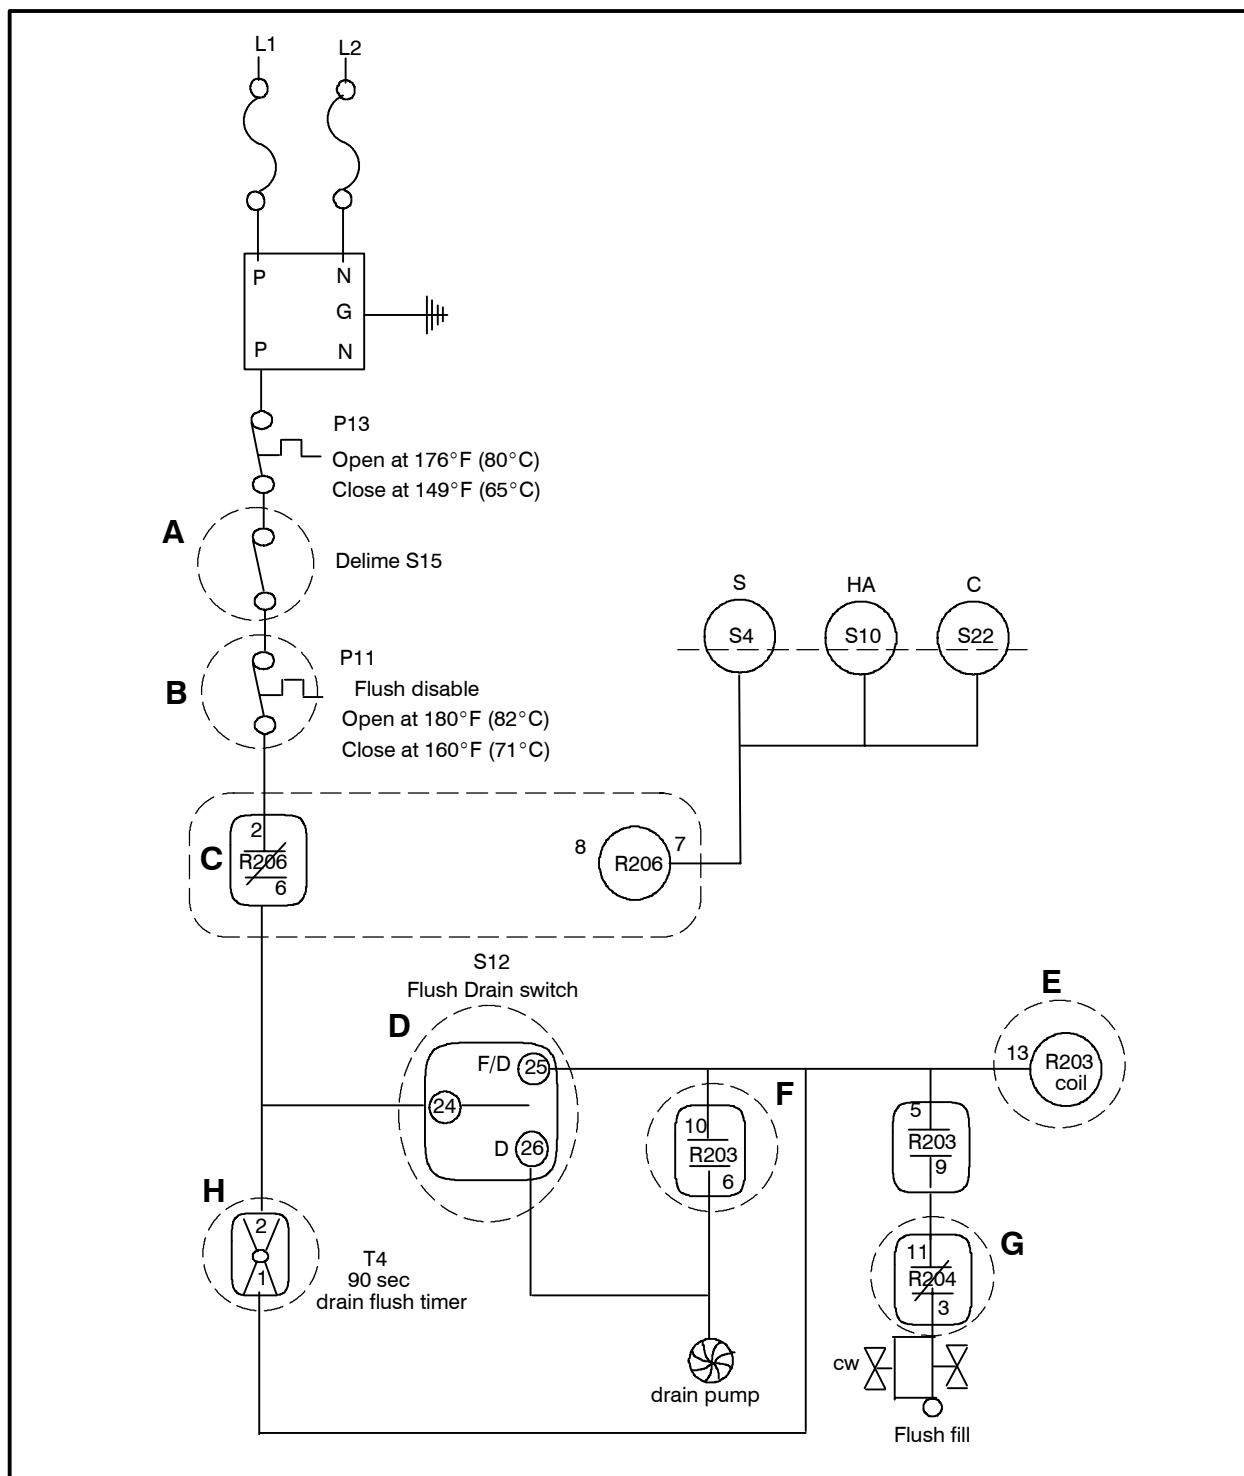

FIGURE 6
1. Check that the deliming switch (S15) is in the off position. See FIGURE 6, location (A).
2. Check that the P11 contact is closed. See FIGURE 6, location (B).
3. Check that relay R206 contacts are closed. See FIGURE 6.
4. **Auto Flush/Drain** – Check T4 flush/drain solid state timing relay inputs and outputs. See FIGURE 6, location (H).
5. **Manual Flush/Drain** – Check S12 flush/drain switch input and outputs. See FIGURE 6, location (D).
6. Check R203 relay coil and contacts. See FIGURE 6, location (E).
7. Check that R204 contacts are closed. See FIGURE 6, location (G).